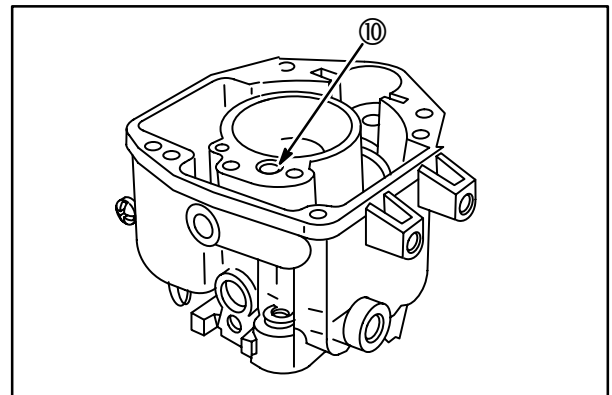

Fig. 81
7. Remove pilot jet (10) using Screwdriver #19061, **Fig. 81**.